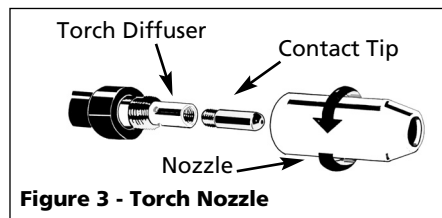

Figure 3 - Torch Nozzle
- b. Wire matches contact tip in end of torch (See Figure 3).
7. Unscrew nozzle and contact tip from end of welding torch (See Figure 3). Plug welder into a proper power supply receptacle.
9. Carefully slip contact tip over wire, screw tip into torch end and reinstall nozzle (See Figure 3). Cut wire off approximately 1/4 inch from nozzle end.